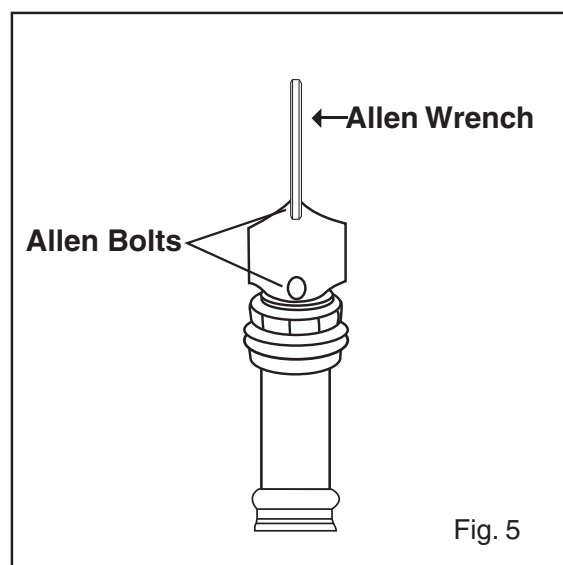

Fig. 5
1. Now take the stem that is already mounted on the bike. Remove the 2 allen bolts (or 4 bolts) from the face of the stem. (Fig. 5)